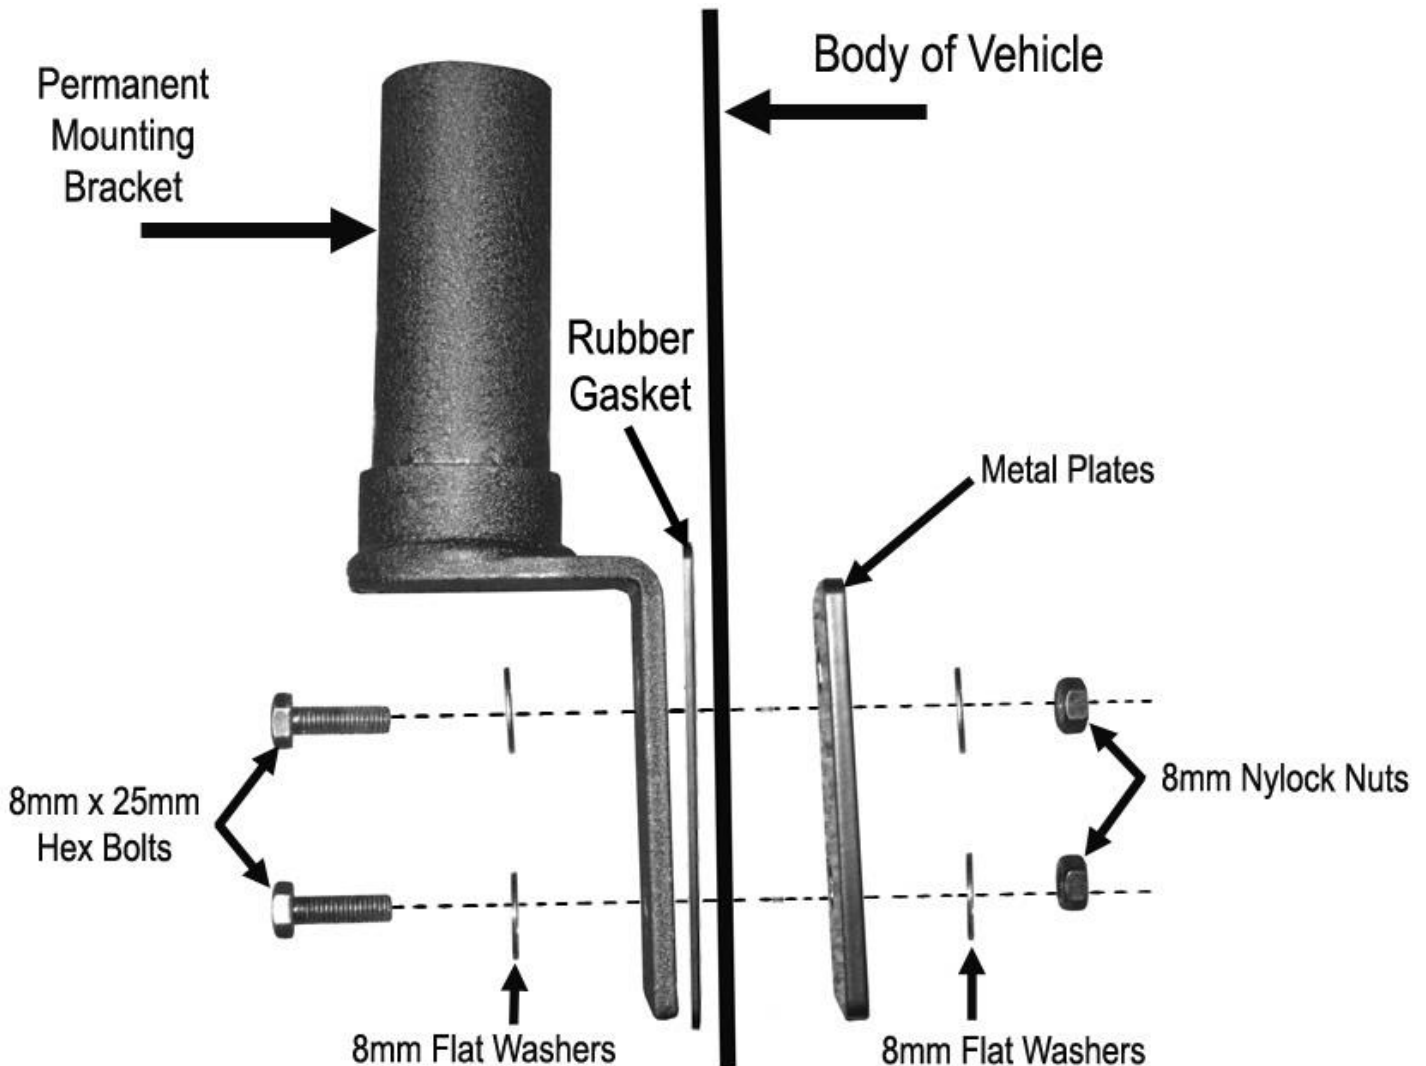

Fig 5
**Step 5.** Remove the lower/outer bolts attaching the passenger/right side body corner panel and remove panel, (Fig. 5). Repeat to remove driver/left corner panel.
**Step 6:** Remove the passenger/right outer hinge bolt. (Fig. 5).
**Step 6:** Starting on the driver side, place adhesive backed rubber gaskets between the body and the Short Bottom Brackets, **(Figure 5)**.
**Step 7:** Insert (2) 8mm x 35mm Hex Head Bolts with (2) 8mm Flat Washers through the Short Bottom Brackets and body. Access the hardware through the opening for the taillight and position the 2-hole Metal Plates over the already inserted 8mm Hex Bolts, (**Figure 5**). Tighten fully.